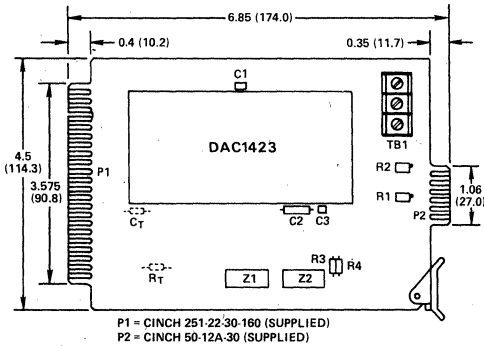

Figure 13. AC1582 Mounting Card. Dimensions shown in inches and (mm).
The AC1582 mounting card is available to assist in evaluating the DAC1423. As shown in Figure 13, the AC1582 is an edge connector card with pin receptacles for plugging in the DAC1423. This card includes offset and span adjustment potentiometers, power supply bypass capacitors and the logic needed for increment/decrement control. Increment/decrement control is enabled via connection to J2. In addition, the card allows for several user-selectable configurations:
These configurations can be programmed by user-installed jumpers, as shown in the wiring chart of Table 3. Jumper locations are not shown in Figure 13, but are labeled on the mounting card.
- ¹ Jumper locations are not shown in Figure 13, but are labeled on AC1582.